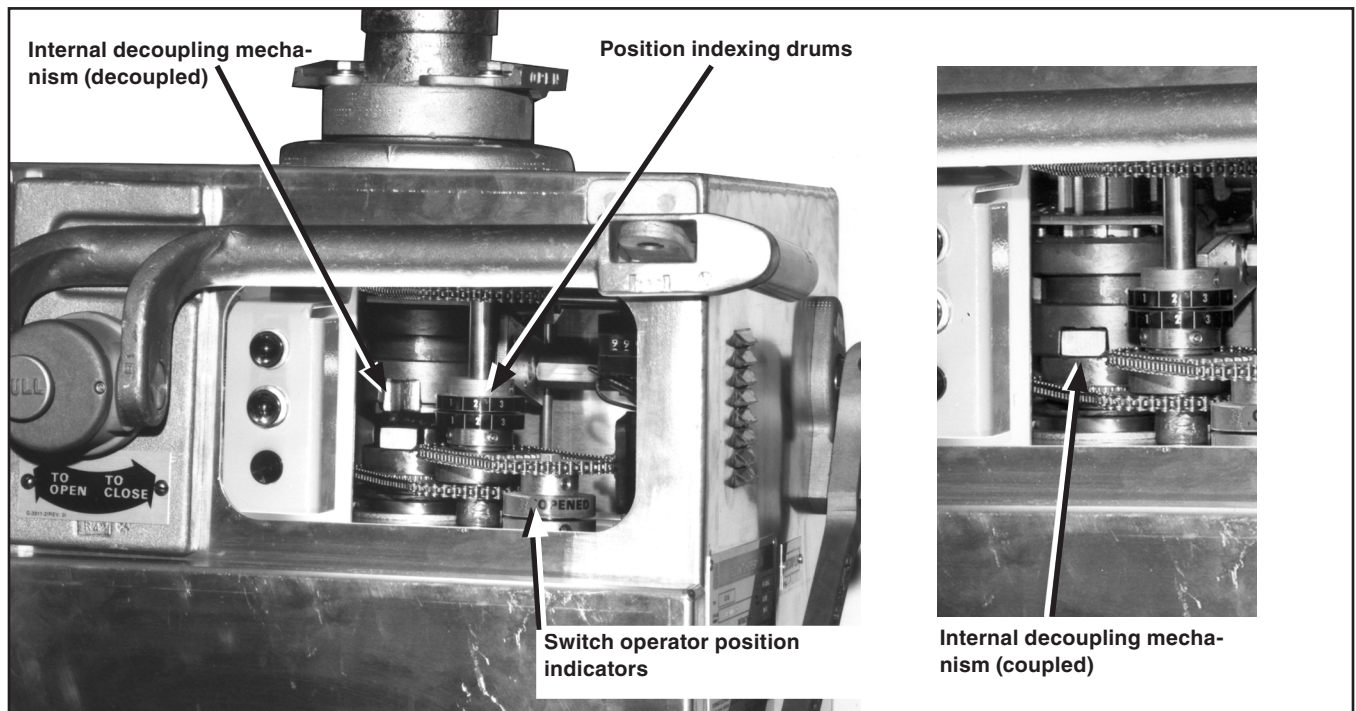

Figure 7. The internal decoupling mechanism viewed from the observation window.
- STEP 2.** Turn the manual operating handle slowly until the position indexing drums are numerically aligned to move the switch operator to the exact position for coupling. See Figure 7.